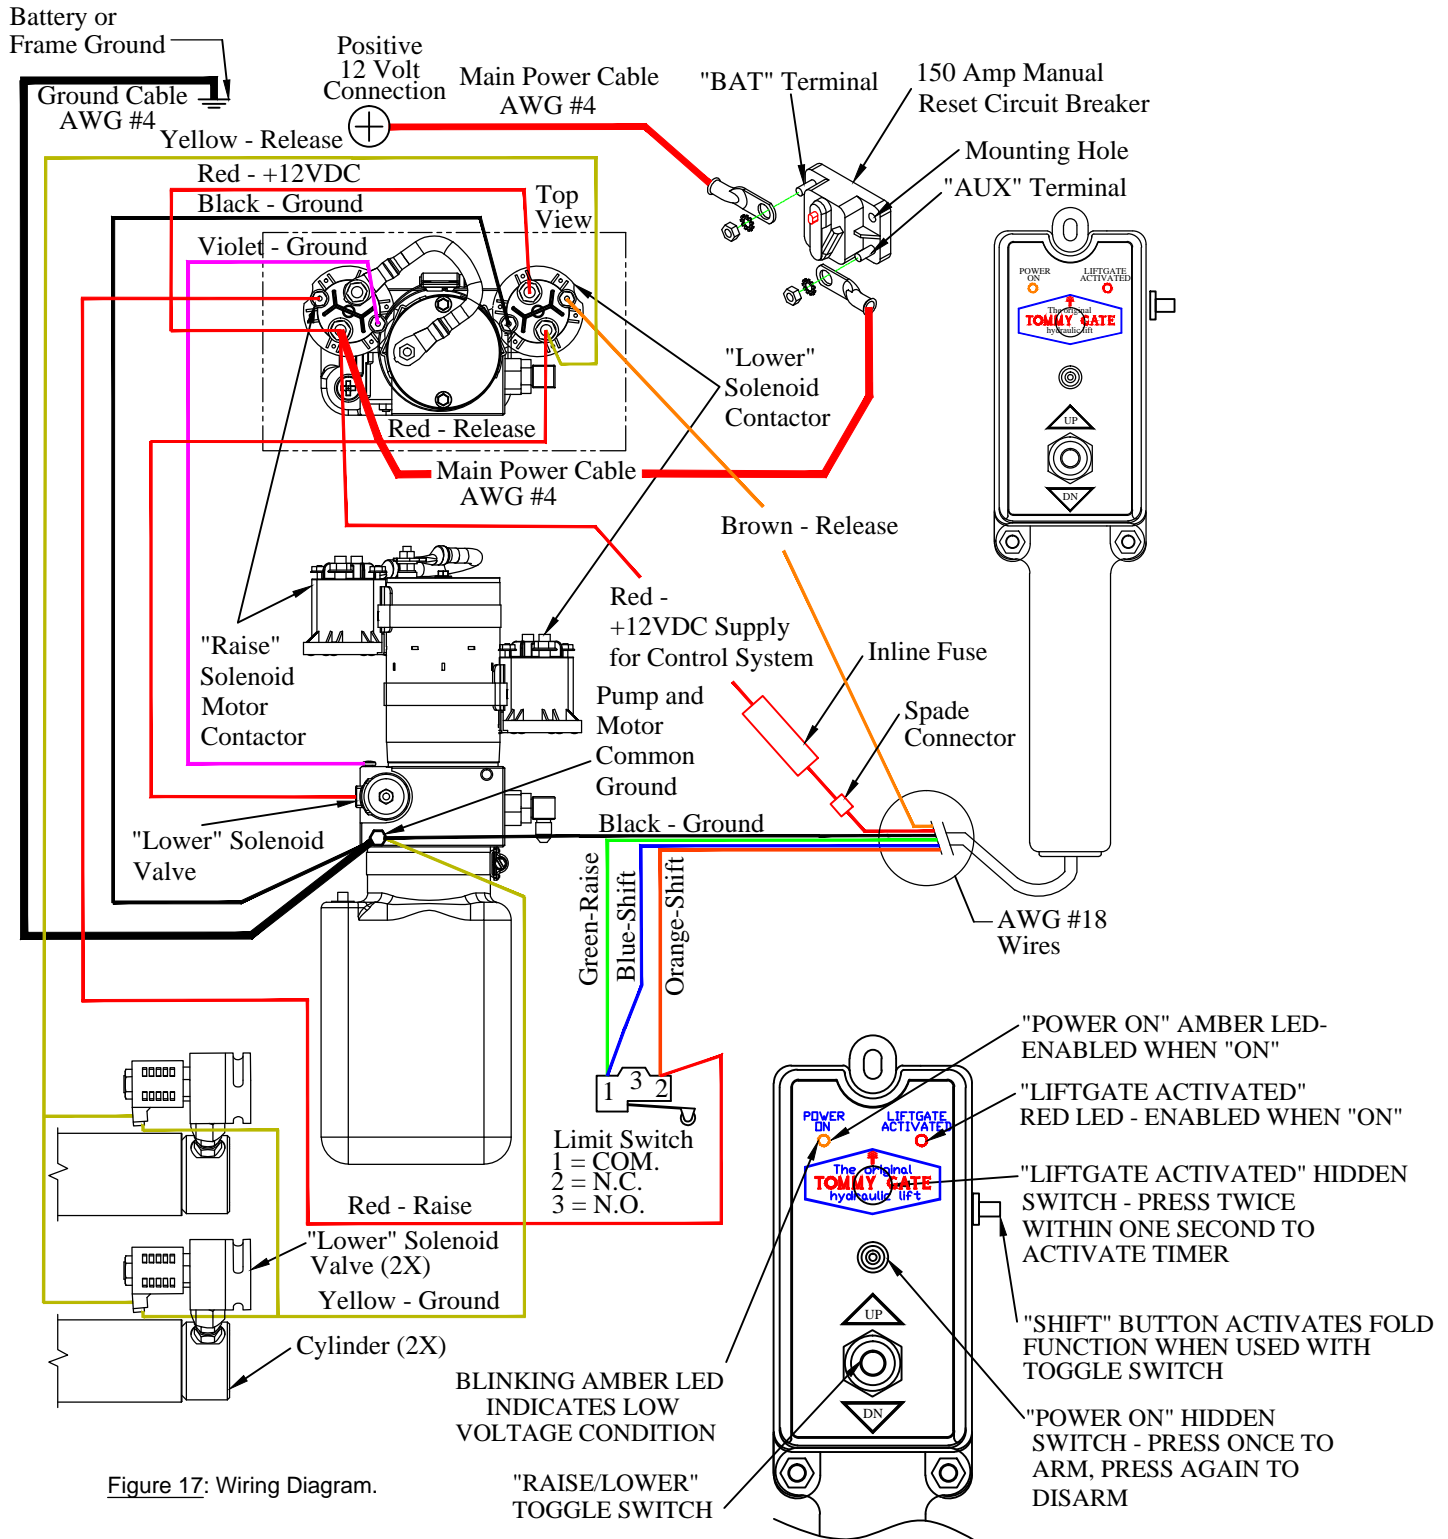

Figure 17: Wiring Diagram.
Note: Follow the *Tommy Gate Recommended Electrical Wiring Guidelines* and wiring diagram (Figure 17) in the following steps.
13. **Connect** the circuit breaker (Figure 17). Use the supplied heat shrink tubing.